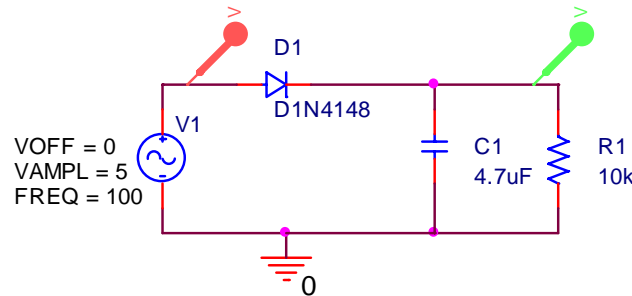

Figure B-6
- Add a capacitor across the resistor as shown in figure B-6 below: